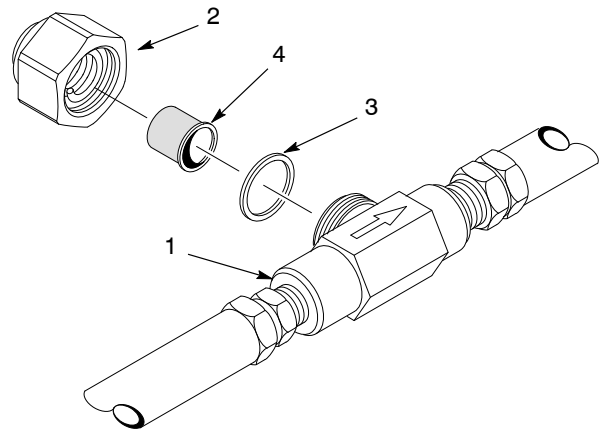

Figure 3 Maintenance
2. See Figure 3. Remove the nut (2), filter element (4), and gasket (3) from the T-filter (1).